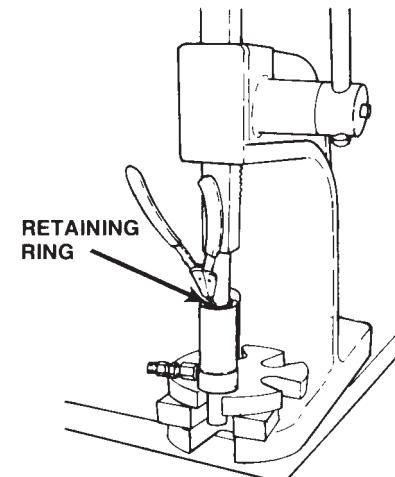

FIGURE 3
2. Place the cylinder in an arbor press, and remove the retaining ring from the bottom of the cylinder. See Figure 3.